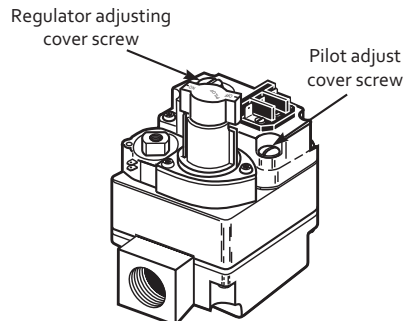

Figure 9. Pressure Regulator Adjustment
2. Remove "Reg. Adj." cover screw (see fig. 9).